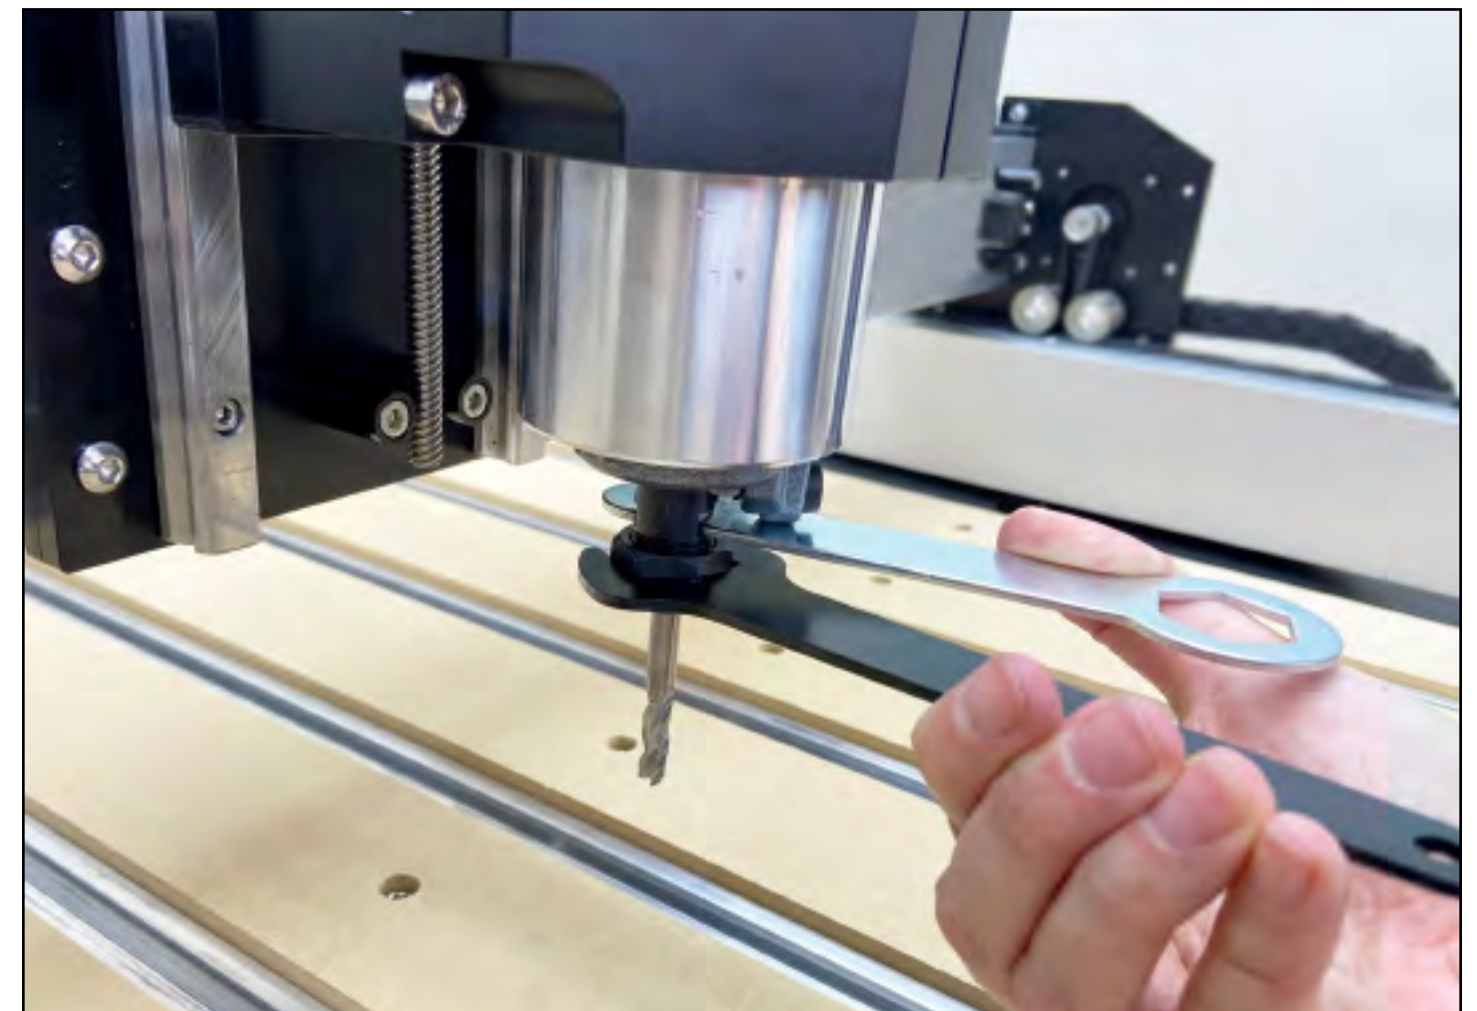

Figure 9-10
3. Use the 22mm and 13mm wrenches to tighten the collet nut securely. See **Fig. 9-10**.